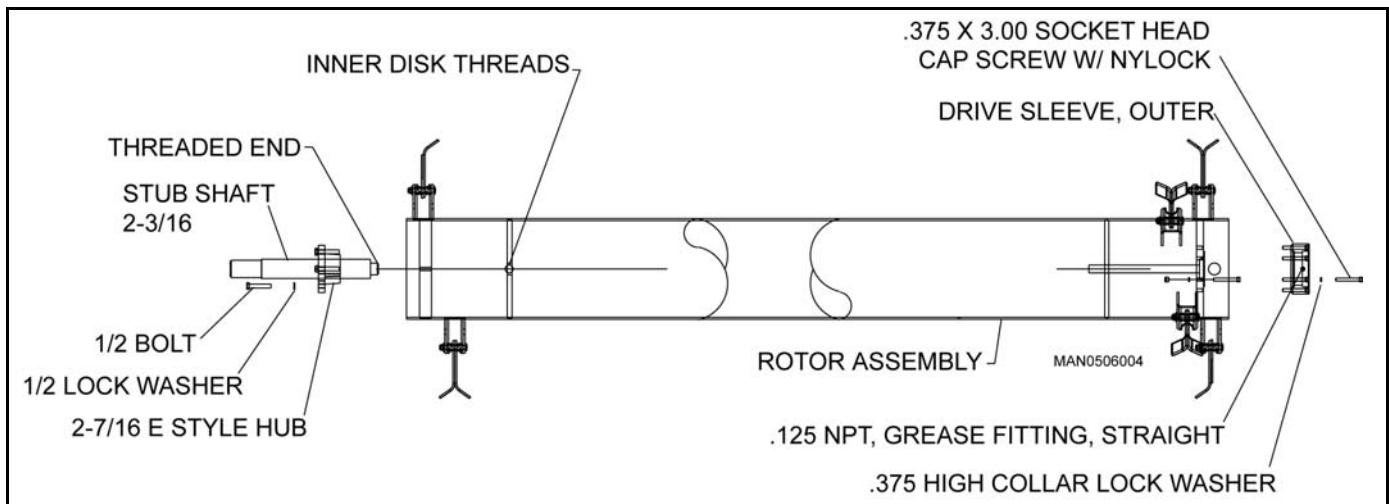

Figure 38. Stub Shaft Assembly
2. Remove three 1/2 x 2-1/2 hex bolts in taper lock hub and re-install bolts in three threaded holes (see Figure 38).